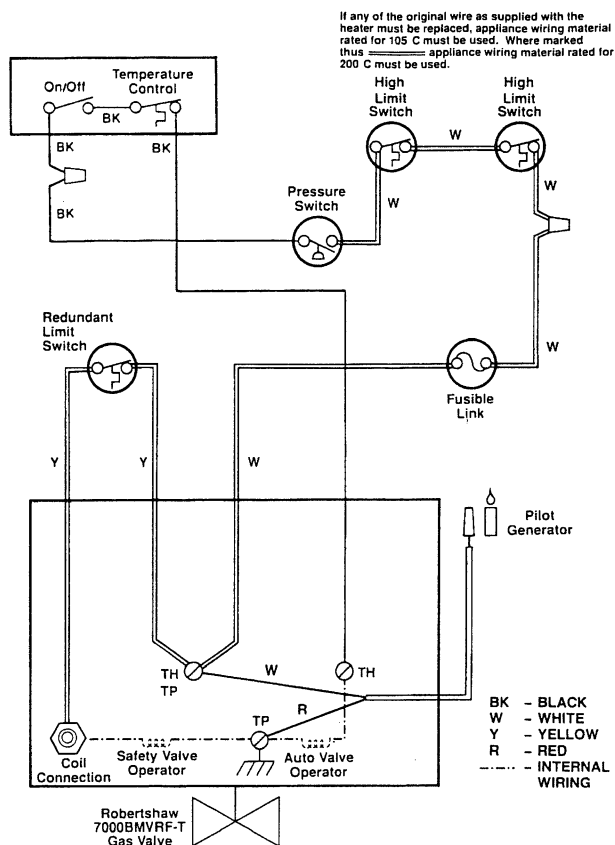

Fig. 11 Wiring Diagram, EPG
**Warning. Do not connect the heater to any external source of electricity.** The Teledyne Laars Series One EPG/EPM heater has a built-in thermoelectric generator. It provides a completely self-contained electrical system. Any attempt to make external electrical connections will damage the heater, and could be hazardous. See Figures 11 and 12 for typical wiring diagrams of the EPG/EPM heater.